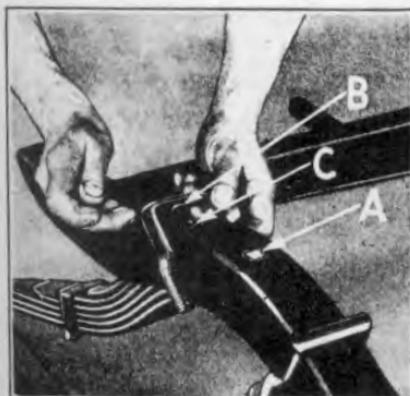

Fig. 56
- (a) Insert hangers through ends of spring and perches (See "C" Fig. 56).